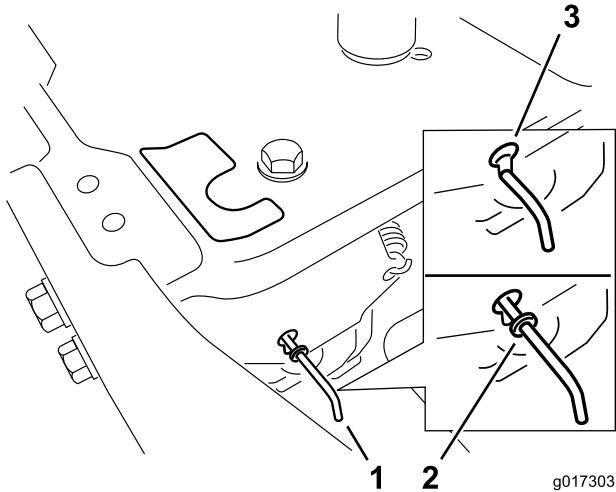

Figure 20
4. Move the bypass levers forward through the key hole and down to lock them in place (Figure 20).
Move the bypass levers rearward through the key hole and down to lock them in place as shown in Figure 20.